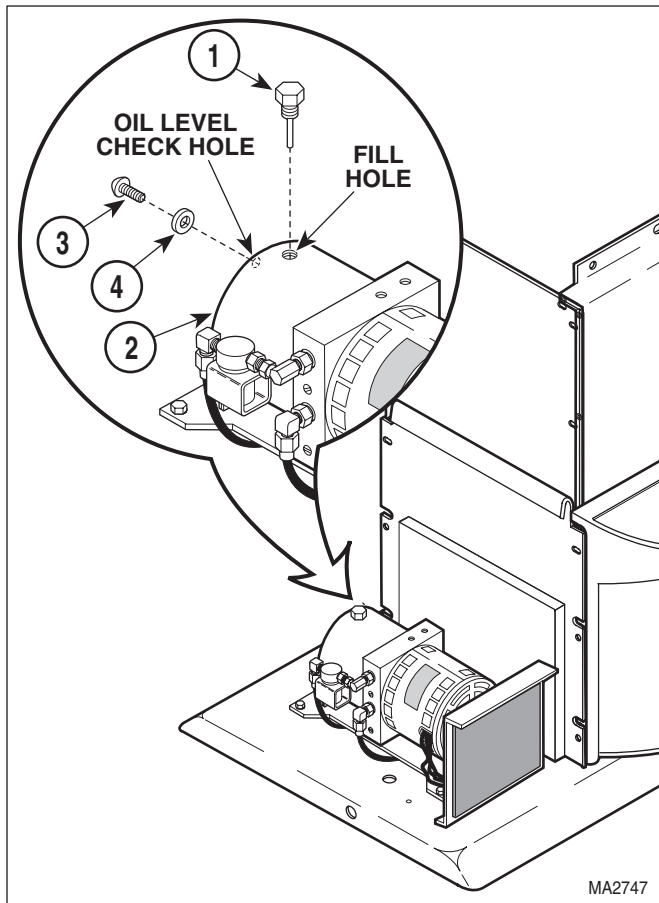

Figure 4-2. Checking / Adding Oil To Motor Pump
- (1) Move the BASE DOWN, BACK DOWN, TILT DOWN, and FOOT DOWN functions all the way down.
- (2) Remove motor cover assembly (Refer to para 4.2).
- (3) Remove filler cap (1, Figure 4-2) from motor pump (2).
- (4) Remove screw (3) and gasket (4) from motor pump (2).
- (5) Check oil level. If oil level in reservoir is not even with oil level check hole, oil must be added.